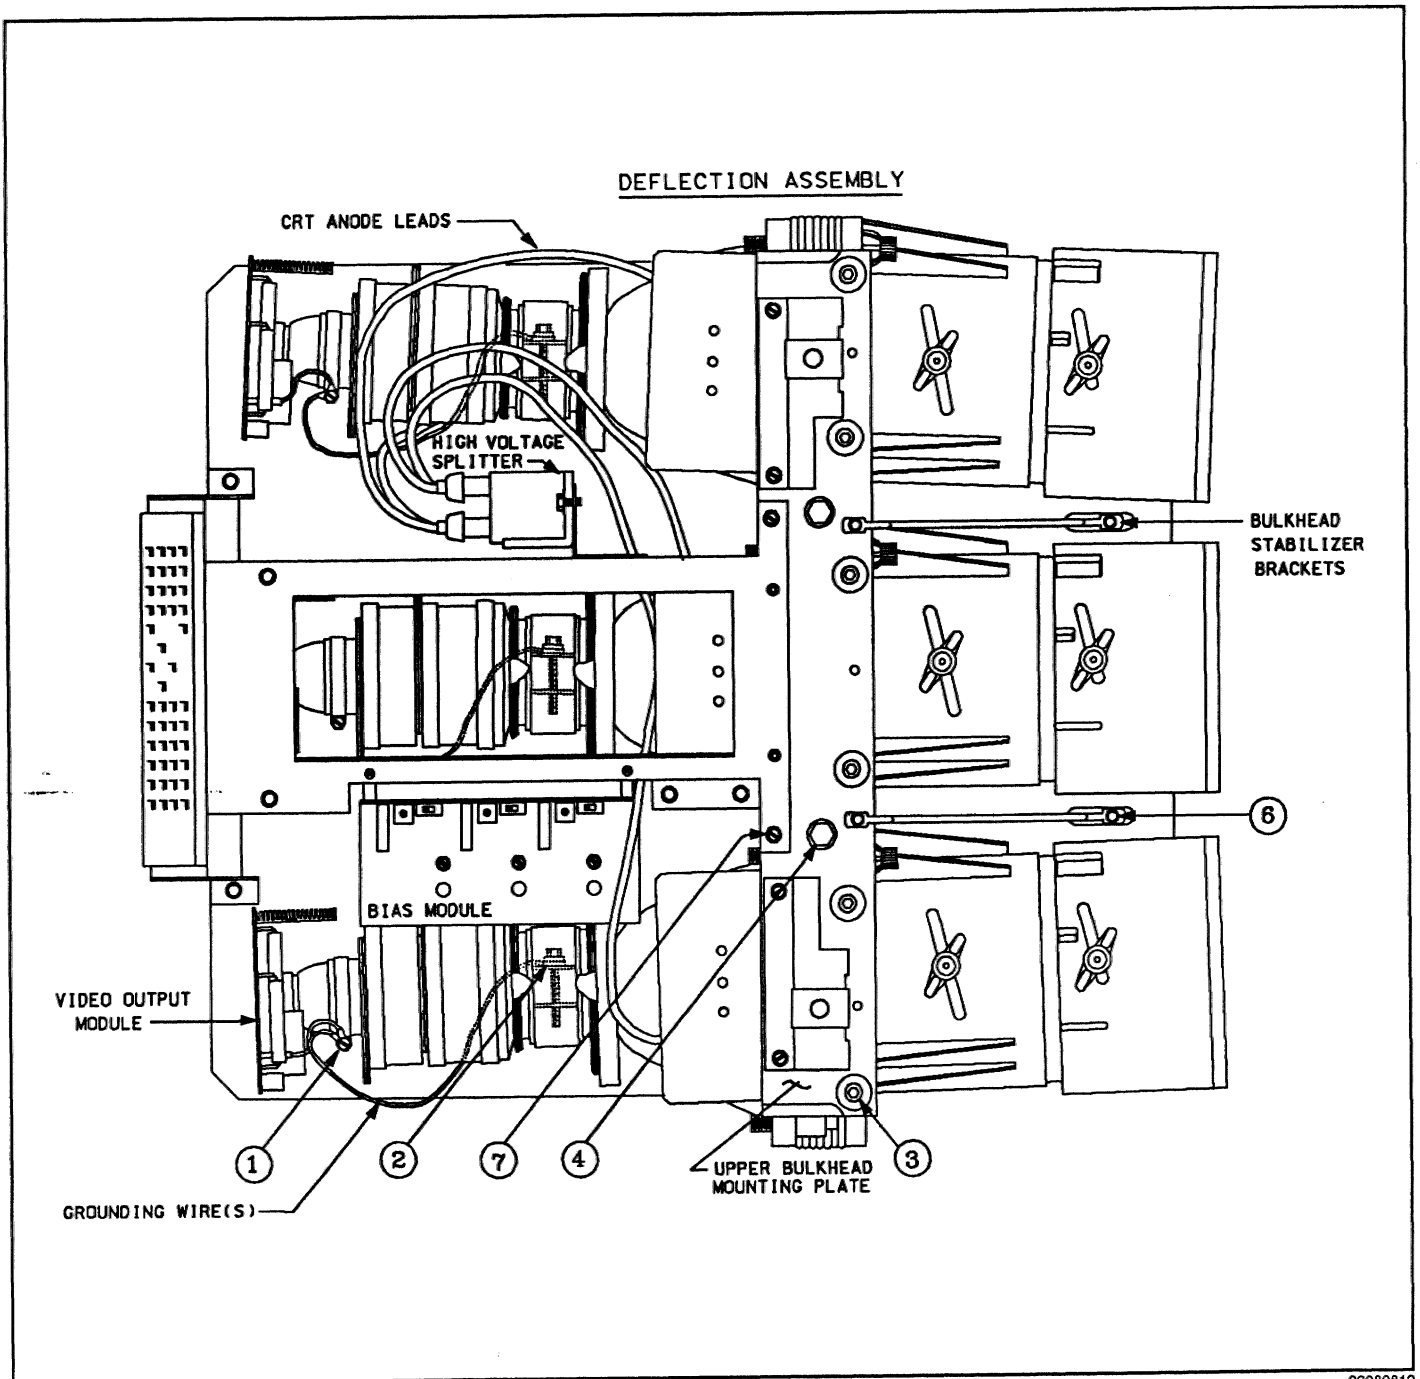
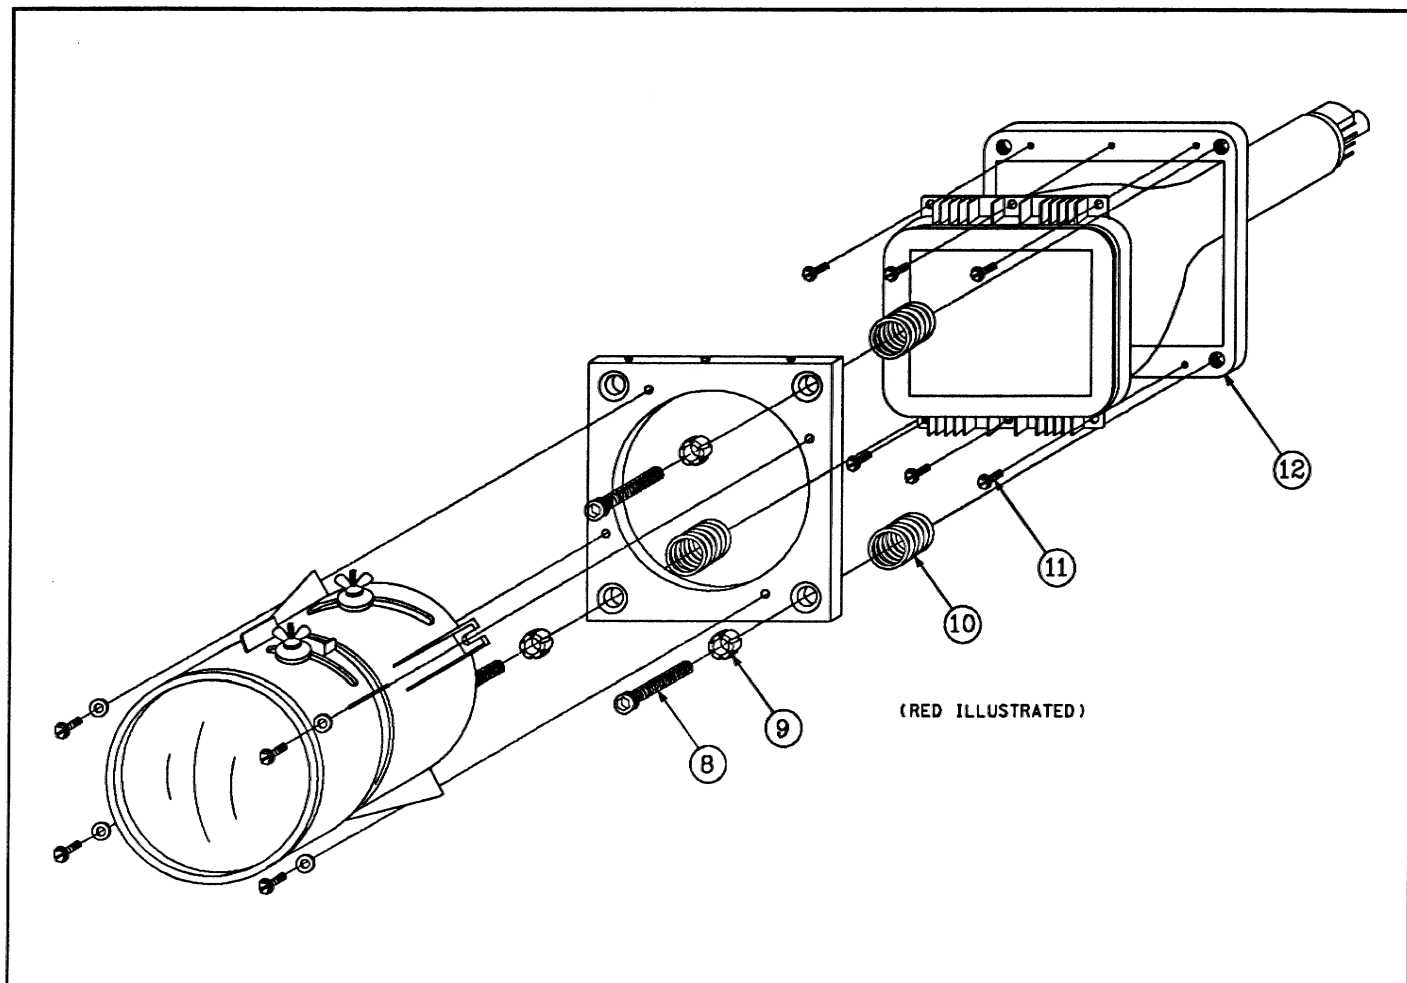

FIGURE 5-15 CRT Removal (A)
FIGURE 5-16 CRT Removal (B)
g) Loosen the main Deflection assembly clamp which secures the Deflection assembly to the CRT neck. The Deflection assembly is shown in Figure 5-15. Slide the Deflection assembly off the neck of the CRT.
h) Remove the 6 CRT alignment screws (item 3).
i) Remove the 2 bulkhead securing bolts (item 4).
j) Remove the 4 bulkhead stabilizer bracket screws (item 5) for the two stabilizer brackets (item 6).
k) Remove the 2 bulkhead Bias module mounting bracket screws (item 7).
o) With the hex head ball-nose driver supplied in the tool pouch, remove the 3 CRT tilt bolts, swivel bushings and tilt springs (items 8,9 and 10 in Figure 5-16).
p) Remove the 6 CRT mount screws (item 11 in Figure 5-16) from the CRT heat sink (item 12 in Figure 5-16).
a) Mount the CRT heat sink (item 12 in Figure 5-16) to the CRT with the 6 CRT mount screws (item 11).
b) Secure the CRT/bulkhead to the lens mounting plate with the 3 CRT tilt bolts, swivel bushings and tilt springs previously removed (items 8,9 and 10 respectively in Figure 5-16).
g) Mount the Bias module mounting bracket with the 2 screws previously removed (item 7 in Figure 5-15).
h) Secure each bulkhead stabilizer bracket with the 4 screws previously removed (item 5 in Figure 5-15).
i) Install the 2 bulkhead securing bolts (item 4 in Figure 5-15)
j) Screw in the 6 CRT alignment screws (item 3 in Figure 5-15). Do not tighten fully.
**e)** Remove the Deflection assembly clamp screw to release the grounding wire to the P3 connector on the Video Output Module. See Figure 5-15.